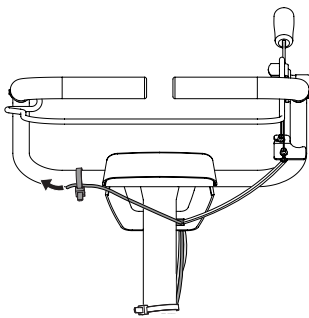

Figure 6
- Route the emergency stop control wire behind the handle, then to the left side of the handlebar. Secure with a cable tie immediately after routing out from behind the panel. See Figure 6.